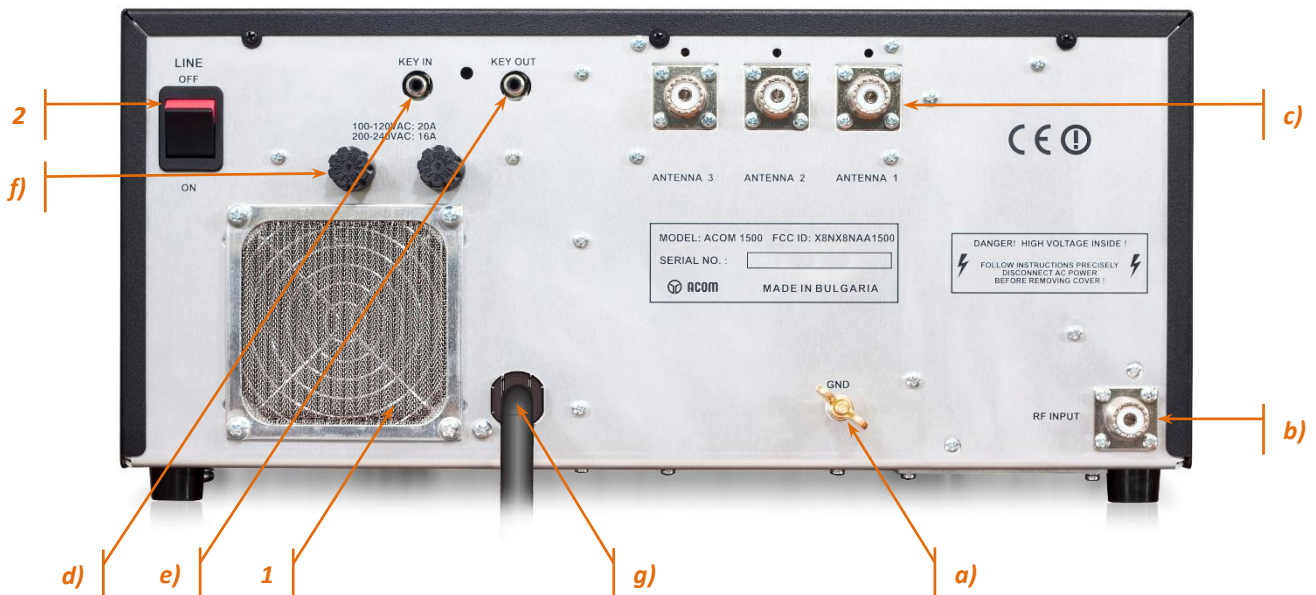
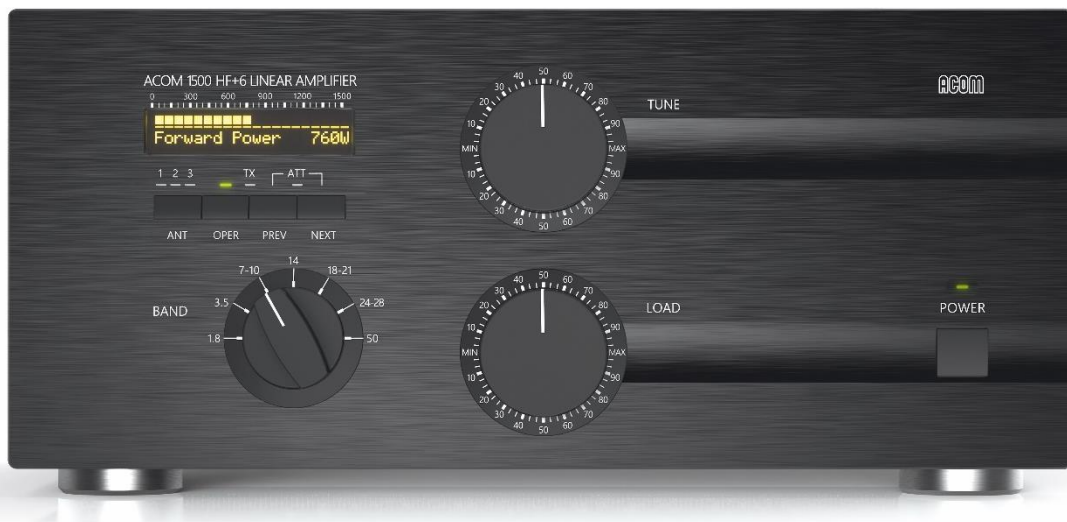

Figure 2-1 Rear panel - Connections
Figure 3-1 Front panel - Display and Controls
The ACOM 1500 HF + 6 meters Linear Amplifier is a Safety Class I unit regarding protection against electric shock. The third grounding lead of its mains cord (colored yellow with two green stripes) and the ground stud on the rear panel of the amplifier (marked **GND**, see Figure 2-1 Rear panel - Connections, Pos. (a)) must be connected to the station's grounding system for safe operation.
Please, see **Figure 2-1 Rear panel - Connections**.
First, connect the wing-nut ground stud of the amplifier (on the rear panel, marked **GND**) to the station's grounding system (see *Figure 2-1 Rear panel - Connections*, Pos. (a)).
Connect a suitable coaxial cable from the transceiver output to the amplifier **RF INPUT** SO-239 socket (see *Figure 2-1 Rear panel - Connections*, Pos. (b)), using PL-259 plug.
Connect a suitable coaxial cable with a PL-259 plug (with PTFE insulation) from the appropriate amplifier output (marked **ANTENNA 1**, **ANTENNA 2**, and **ANTENNA 3**, see *Figure 2-1 Rear panel - Connections*, Pos. (c)) to the antenna selector or tuner, or to the antenna for the respective frequency band.
Run a shielded cable from the "ground on transmit" socket or terminal on your transceiver to the amplifier **KEY-IN** socket (see Figure 2-1 Rear panel - Connections, Pos. (d)). The **KEY-IN** socket uses a standard RCA phono plug.
The **KEY-OUT** socket (see Figure 2-1 Rear panel - Connections, Pos. (e)) provides an extra control signal from the amplifier to the transceiver. It could be used to improve the transmit/receive (RX/TX) switching safety.
Make sure you check whether the main fuses installed in your amplifier (see *Figure 2-1 Rear panel - Connections*, Pos. (f)) correspond to your local mains nominal voltage and if necessary, replace them as described in Section *6.3 Fuse Replacement*!
Due to the different standards in different countries, the mains plug is supplied and mounted by the dealer. He connects to the mains cord end (see *Figure 2-1 Rear panel - Connections*, Pos. (g)) a standard mains supply plug which meets the Safety Class I unit standard in your country.
Make sure the main Power Switch (marked "LINE", see Figure 2-1 Rear panel - Connections, Pos. (2)), on the rear panel is in OFF position and insert amplifier's mains plug into the wall outlet prepared for it. The amplifier remains switched off.
After following all instructions in Section **2 INSTALLATION**, you may turn on the main power switch (marked "LINE") on the rear panel (see **Figure 2-1 Rear panel - Connections**, Pos. (2)). The LED indicator above the **POWER** button (located on the front panel) must light red and "ACOM 1500" will appear on the display (see **Figure 3-1 Front panel - Display and Controls**).
In order to turn on the amplifier, while the Main Power Switch (located on the rear panel and marked "LINE", see Figure 2-1 Rear panel - Connections, Pos. (2)) is in On position, press the **POWER** button (located on the front panel right-bottom corner, see Figure 3-1 Front panel - Display and Controls) and hold it on for about one second. The LED indicator above the **POWER** button will change the color from red to green. You will hear the blower and the optional external fan (if installed) start first at high speed, then slow down.